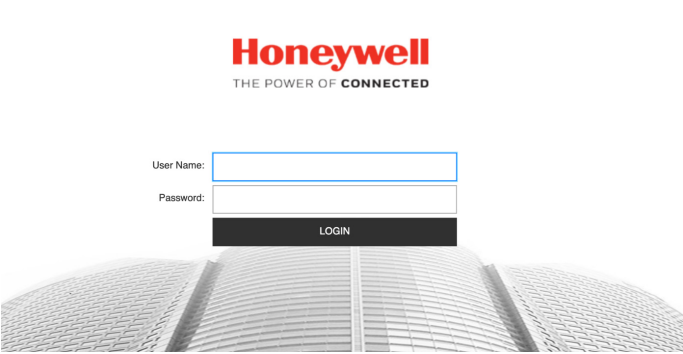

Fig. 3.1
1. With your IE browser open, enter the camera’s IP address in the URL field. See Fig. 3.1.